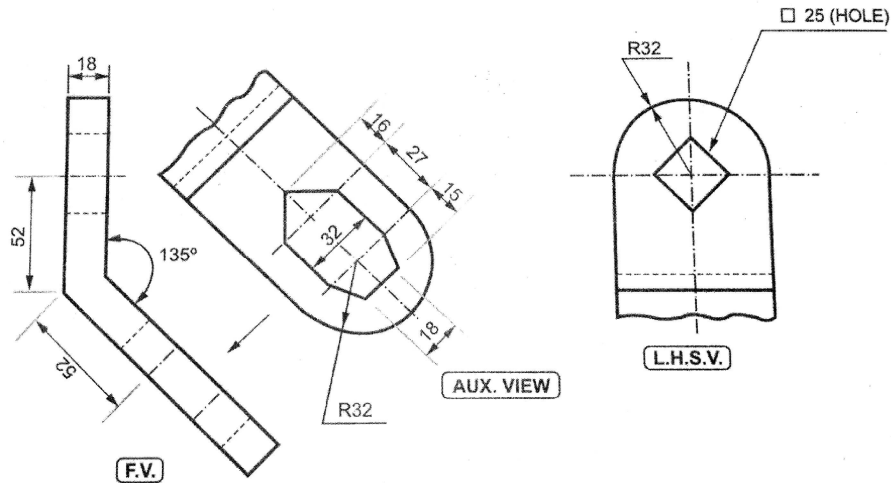

Fig. 4
6. Fig. 4 shows front view, partial L.H.S. view and partial auxiliary view of an object :